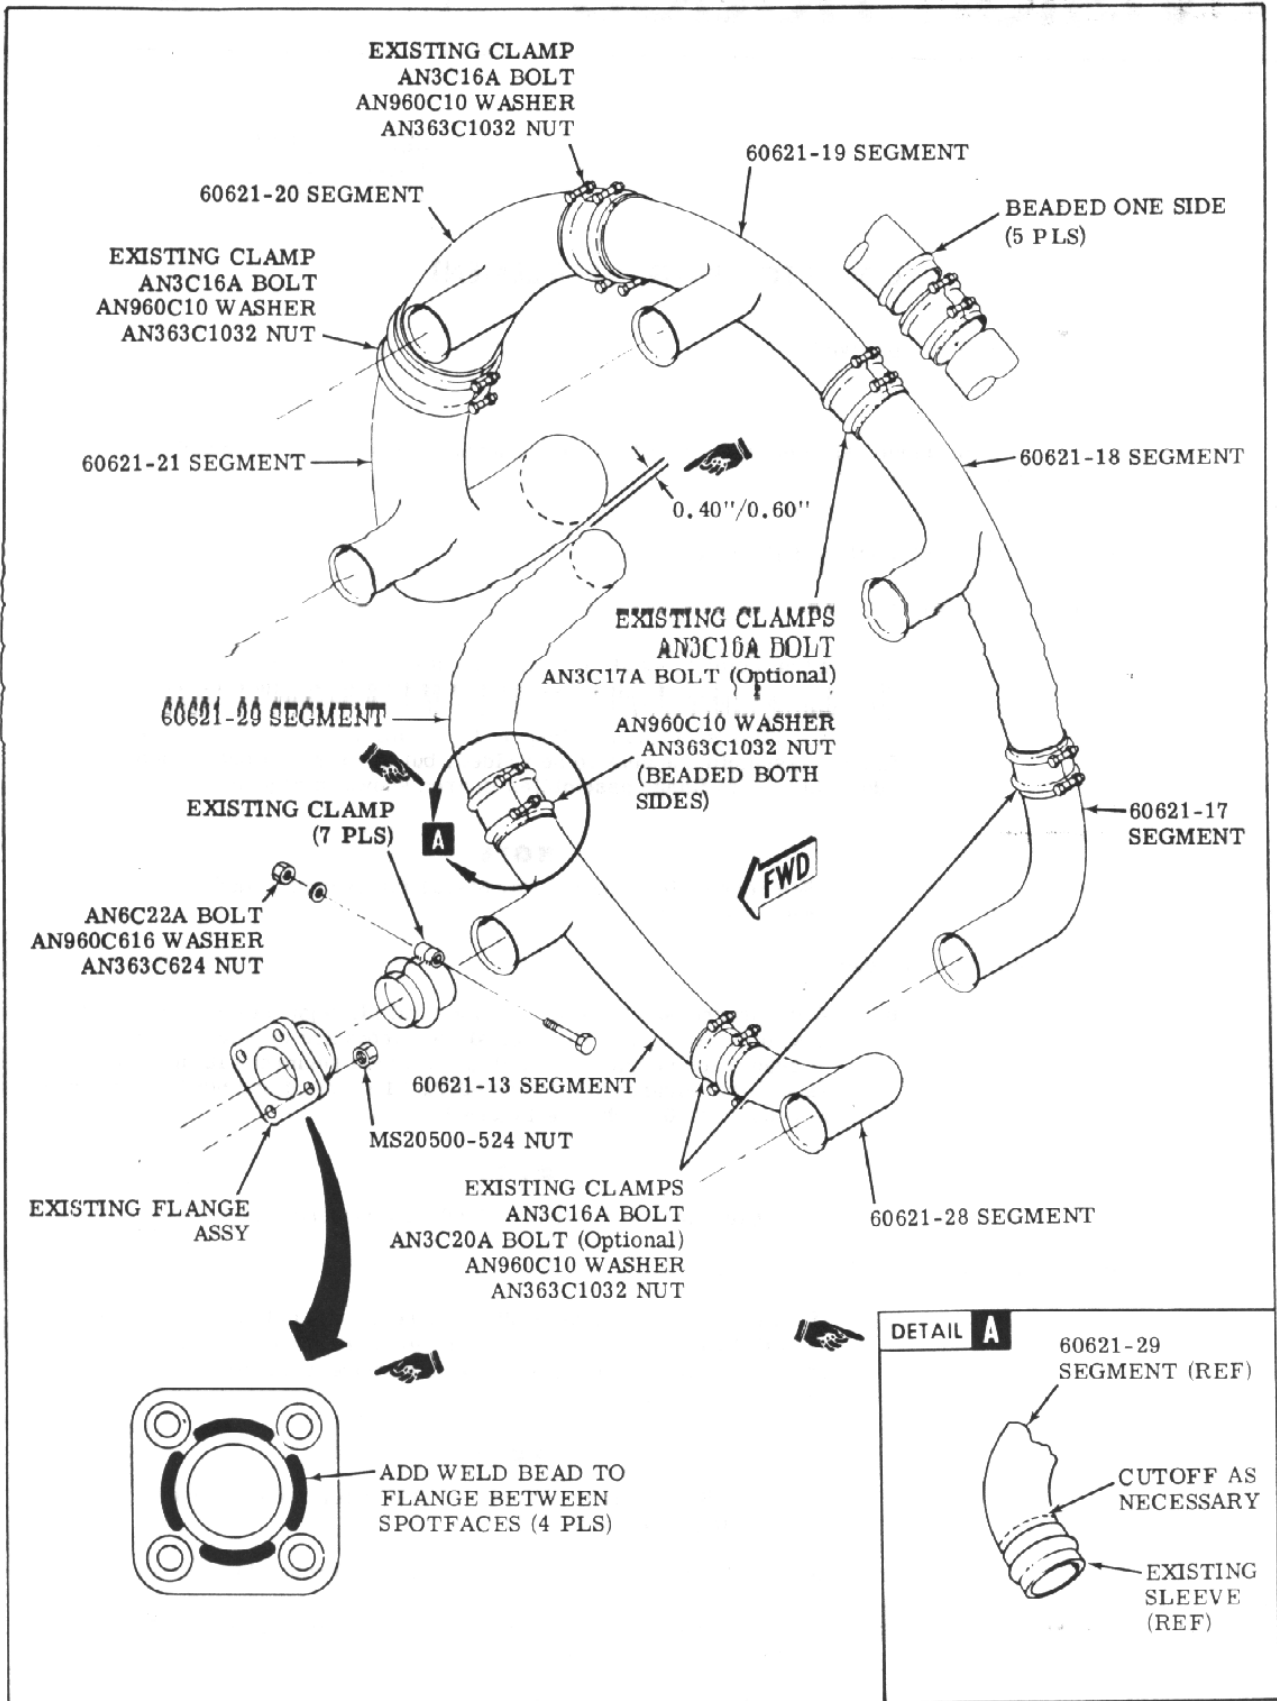

Figure 1.
Page 2 of 3 - Figure 1
Add: View of flange assembly to figure 1 showing area to be welded. See sheet 3 of this revision.
- 4 Assure that hole in existing flange assemblies are spot faced 0.80 inch diameter on center of bolt hole. Flange to be a minimum thickness of 0.25 inch after spot facing. Inspect flange for weld attachment (some flange assemblies appear to be welded, but are not). If not welded, add weld bead to flange assemblies in area shown in figure 1.
- b. Work progressively around engine until all segments of collector ring assembly are in place. After all segments are in place and properly aligned (each segment must align with next segment within 0.040-inch), assure that clearance between 60621-21 segment and 60621-29 segment is 0.50 (± 0.10) inch (see Figure 1).
- c. If clearance is less than 0.40-inch, remove 60621-29 segment and rework by cutting segment off at sleeve. Remove sufficient material from segment provide adequate clearance and reweld segment to sleeve (see Figure 1).